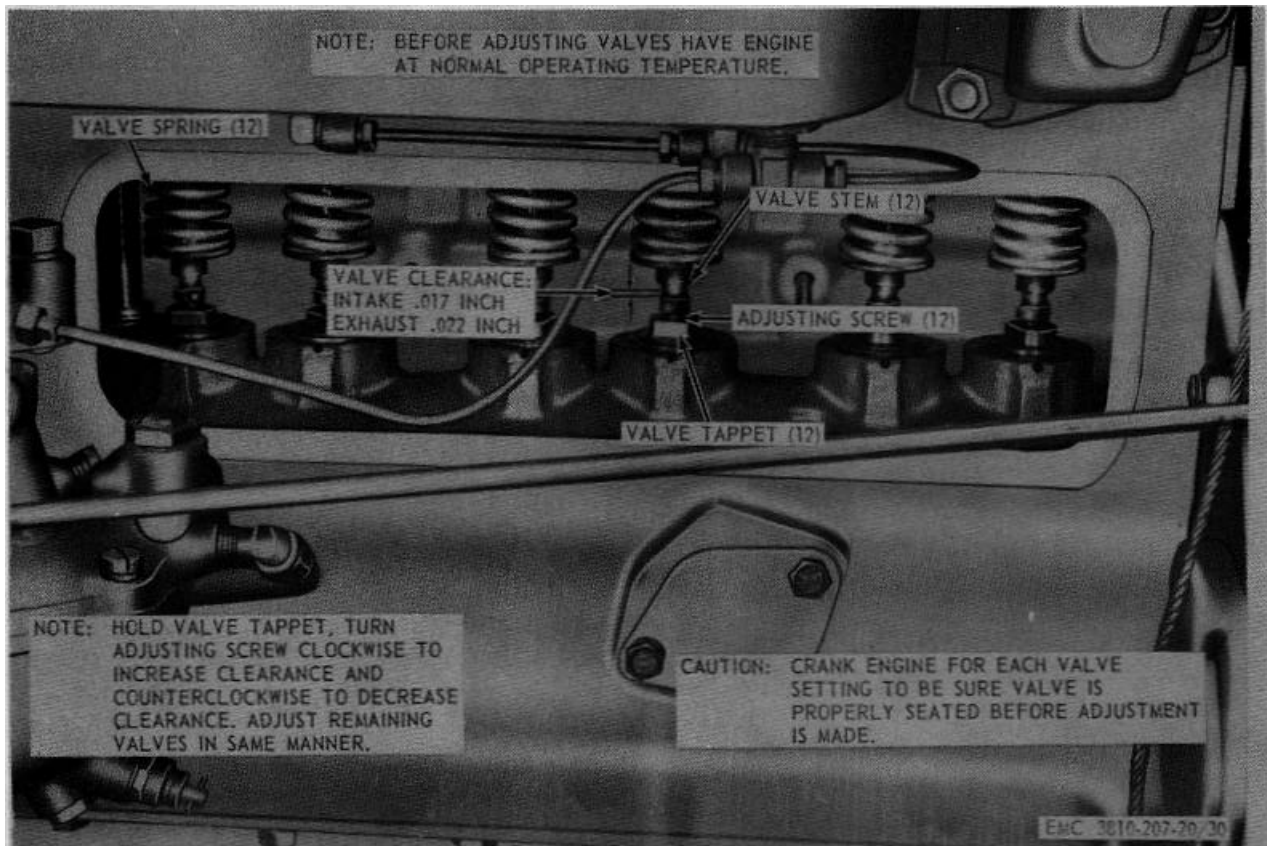

Figure 30. Crane engine, valve adjustment.
c. Adjust the valves as instructed on figure 30.
(1) Remove the spark plug (par. 76).
(2) Place a suitable cylinder compression tester in the spark plug hole and crank the engine with the starter.
(3) The compression gage reading should be from 80 to 85 psi.
(4) Install the spark plug (par. 76).
(5) Test the remaining cylinders in a similar manner.